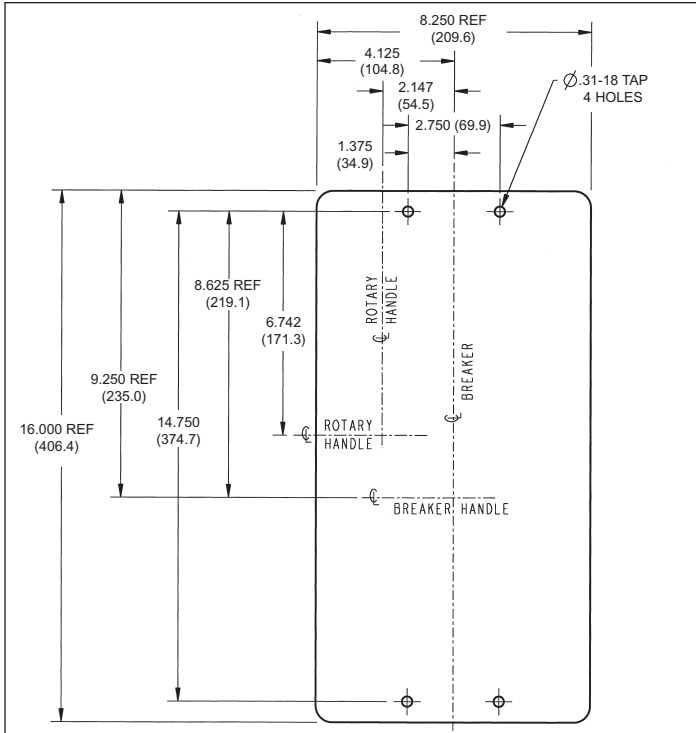

Figure 2. Drill and Tapping Plan for PDG5 Breaker.
1. Determine the position for the circuit breaker in the enclosure . Drill and tap the circuit breaker mounting holes in the enclosure mounting surface as shown in Figure 2.